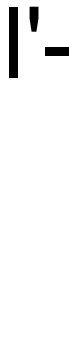

Fig. 76. Fitting of the bushing
**NOTE!** The bushing should be pressed in from the front of the block and with the bevelled side of the bushing turned forwards (Fig. 76).